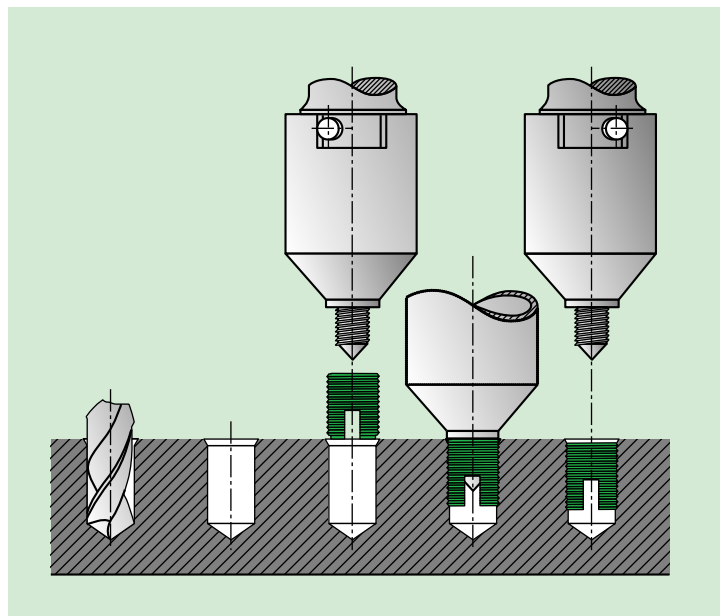

Fig. 15
Manual installation usually takes place using the manual driving tools 610 0... at the female thread or when using tools 610 2... at the hexagonal socket. The machine tools can naturally also be used for manual installation. However, here it is important to ensure that the rotatable shell (2) is positioned correctly (see fig. 15 process description).
3. Take care not to tilt sideways. In machine tools, the rotatable shell (2) must rest against the externally visible stop pins so that it is driven by the pins in the clockwise direction. Screw in the Ensat® until around 0.1 – 0.2 mm under the workpiece surface.